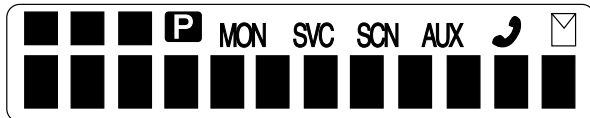

Fig. 2
• **Display (Refer to Figure 2)**